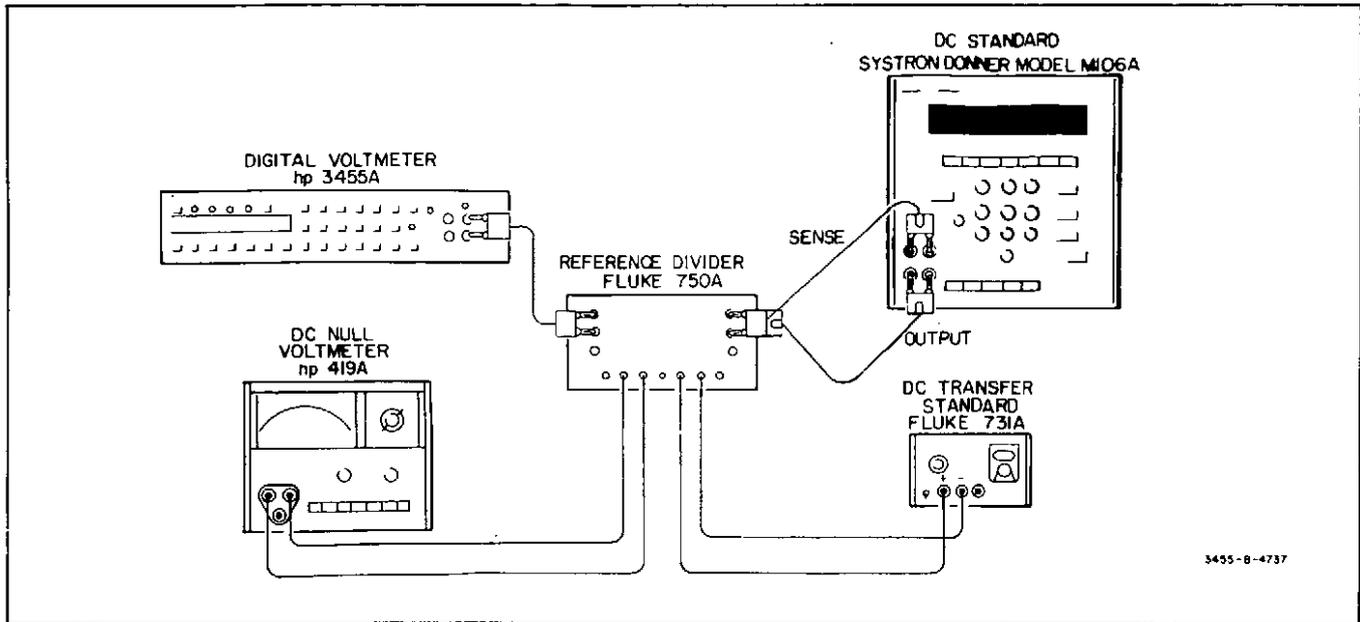

Figure 4-4. DC Accuracy Test.
j. Using short pieces of number 20 AWG (or thinner) insulated solid copper wire, connect the Transfer Standard and DC Null Voltmeter to the Reference Divider as shown in Figure 4-4.
k. Turn off the DC Standard's output. Using 24'' (or shorter) shielded cables equipped with banana-plug connectors, connect the DC Standard and the 3455A to the Reference Divider as shown in Figure 4-4.